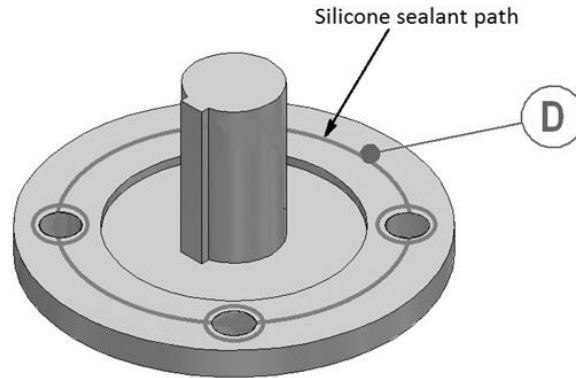

Figure 5 - Sealing of Valve Mounting Flange
- 2) It is recommended that flanges be sealed on assembly with silicon sealant. Apply a ring of silicone sealant around the mounting face of the flange, the ring should be at the same radius from the shaft as the bolt holes. Apply small rings of sealant around each of the bolt holes to completely seal the faces. The path marked 'D' in Figure 5 shows where sealant should be applied to the valve mounting flange.
If an actuator is to be used to operate the gearbox, then the mating faces between the gearbox input flange and the actuator output must be sealed prior to assembly using a ring of silicone sealant applied at the same radius as the bolt holes, a small ring of sealant should be applied around each bolt hole to completely seal the faces (see Figure 5). The actuator limit and torque switch settings should be set up following the actuator manufacturer's recommendations. The gearbox open & closed stop screws should then be set (see next section).